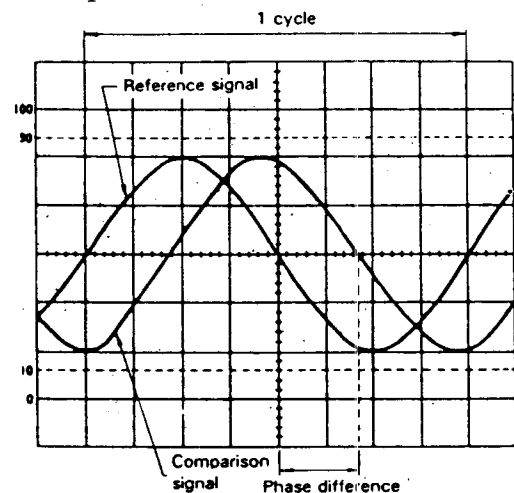

Fig. 20. Phase Difference Measurement.
(Refer to Fig. 20)
3. Use the **POSITION** controls to position the waveforms in the vertical center of the screen. Use the **TIME/DIV** and **VAR SWEEP** controls to adjust the display so one cycle of the reference signal occupies 8 divisions horizontally (see Fig. 20). The **TRIG LEVEL** and **X POSITION** controls are also useful in achieving this display. The display should be as shown in Fig. 20, where one division now represents  $45^\circ$  in phase.
For the example shown in Fig. 20, the horizontal distance is 1.7 divisions. Thus, the phase difference is calculated as follows: